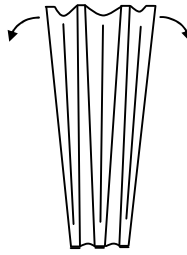

Fig. 1
1) Remove Tent from Bag and set Hub End on Ice. (Fig. 1)